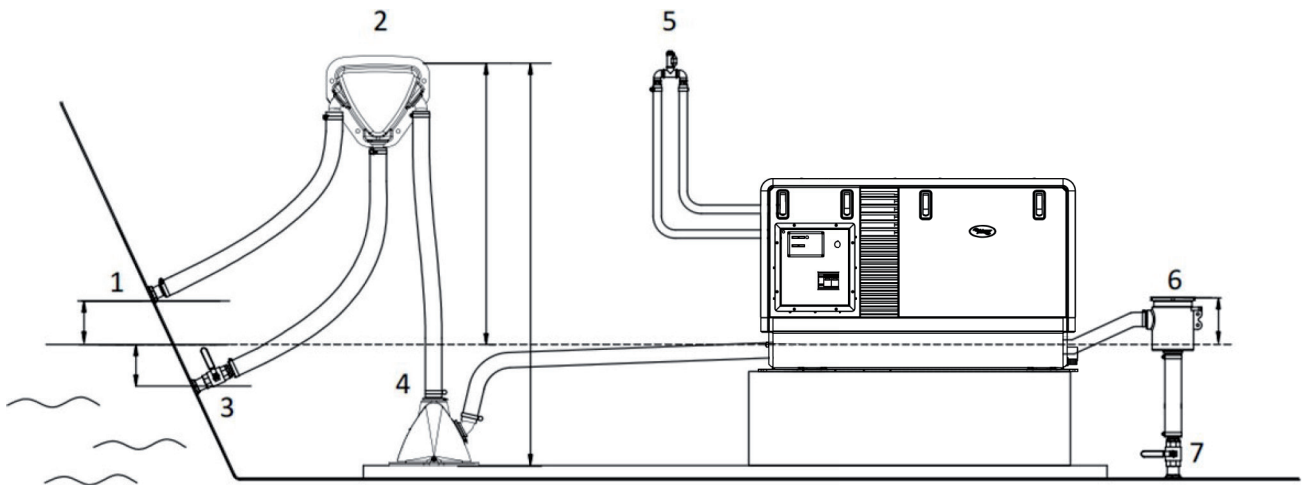

Figure 6: Internal cooling system
Use an appropriate water strainer with connections of 25.4 mm (1"). Install the water strainer in a well accessible position, 5 cm above the waterline (see fig. 6, ref. 6).
Extend the water hose of the by-pass 60 cm above waterline and install an air vent. Ideally, the air vent should be mounted above the yacht keel centre line (i.e. to minimize the influence of swaying on the water intake). See figure 6, ref. 5.